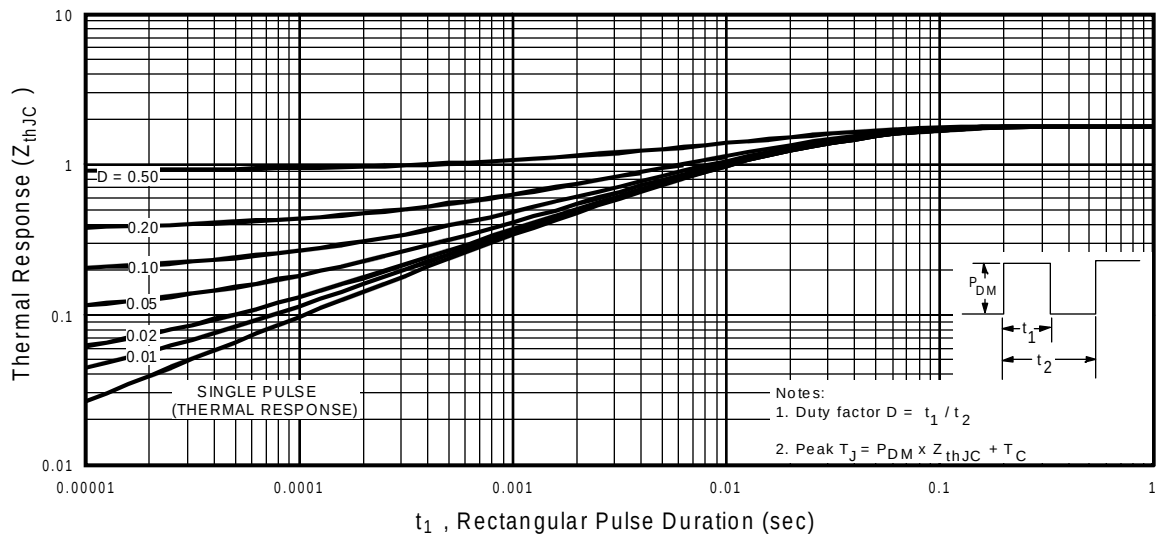

Fig 11. Maximum Effective Transient Thermal Impedance, Junction-to-Case
- ① Repetitive rating; pulse width limited by max. junction temperature. (See fig. 11)
- ② $V_{DD} = -25V$, starting $T_J = 25^\circ\text{C}$, $L = 2.3mH$